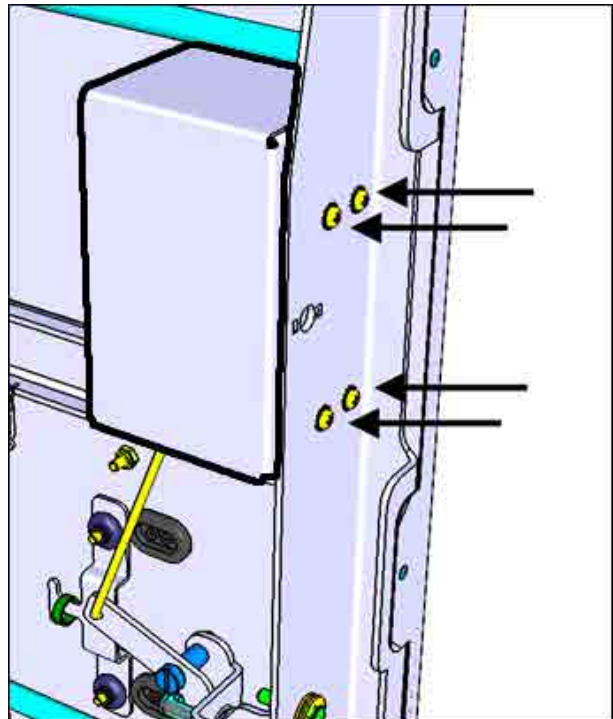

FIGURE 2
2. Remove the 4 screws retaining the protective box.(Fig. 2)